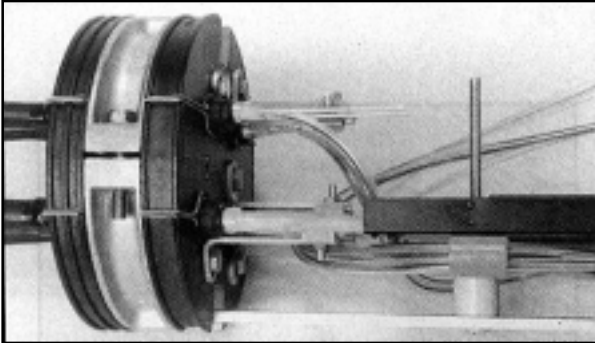

FIGURE 23 – EASE TRANSITION TUBE INTO BUFFER TUBE
11.08 Ease the angular cut end of transition tube into the buffer tube and insert inward for 3/8" to 1/2". (Figure 23)